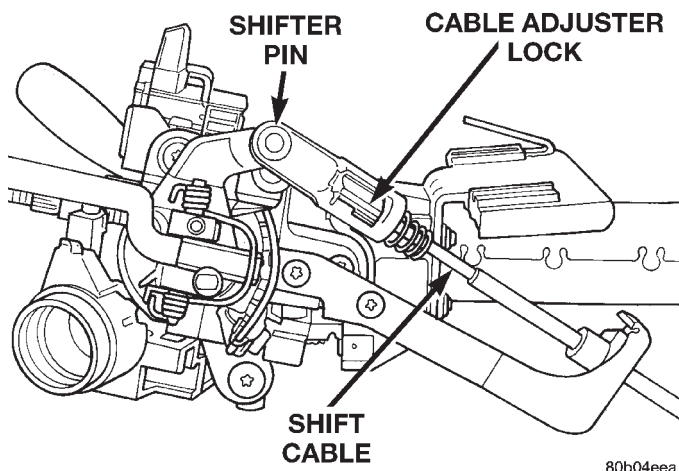

Fig. 357 Shift Cable Adjuster Lock
- (4) Tilt the steering column to the full down position.
- (5) Place shifter in the park position with the key removed.
- (6) Adjust by rotating adjuster into lock position (Fig. 357).
- (7) Reinstall upper steering column shroud.